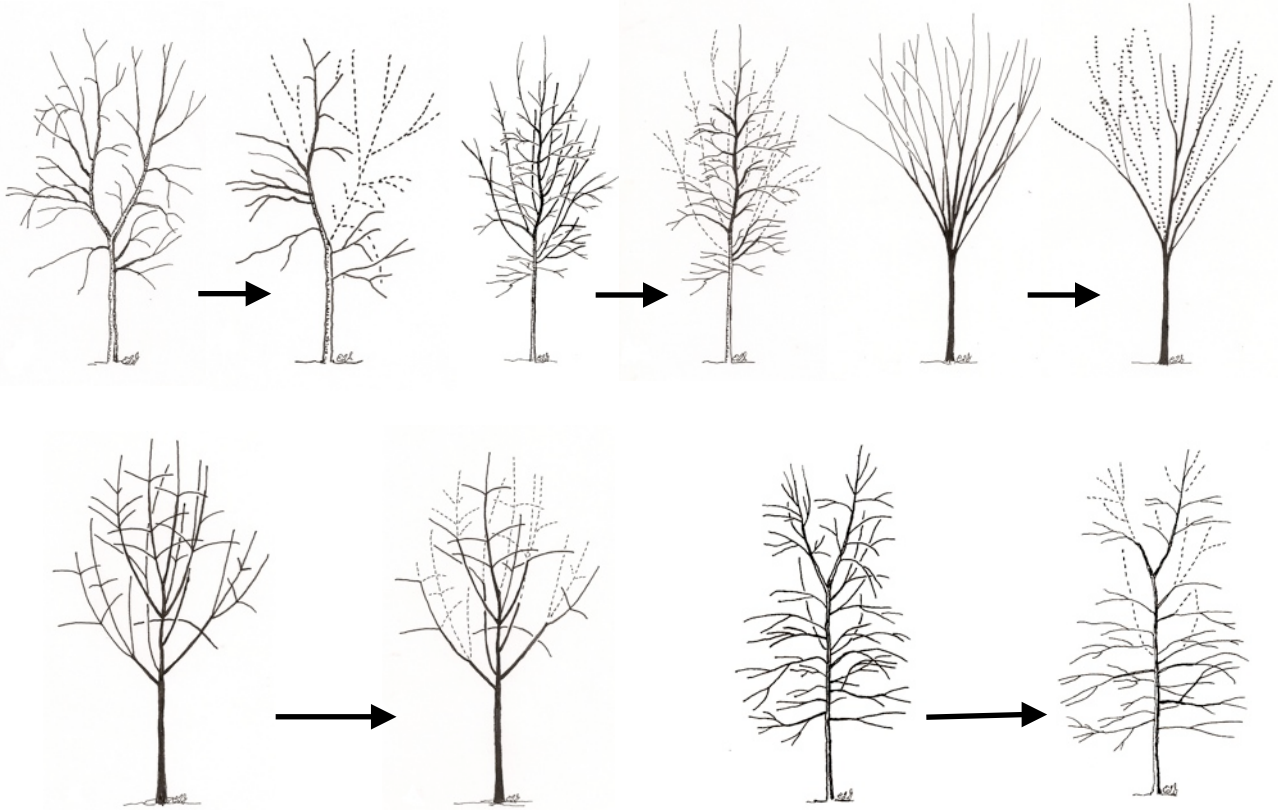

Figure 20. Before and after pruning at planting for structure
5. Reduce vigorous upright stems back to lateral branches or remove entirely (Figure 20).
Reduction cuts can be used on trees at planting to subordinate branches that are codominant (Figure 20). Some upright stems and branches can be removed entirely back to the trunk. Heading cuts may have to be used occasionally.